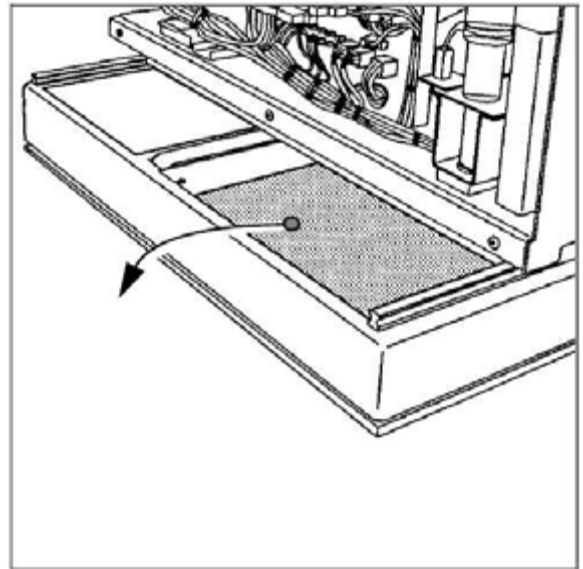

Fig. 23: Removing cover
- Loosen the four cover screws of the front, gray base frame cover and pull the plate out to the side (refer to (Fig. 23 / p. 57)).